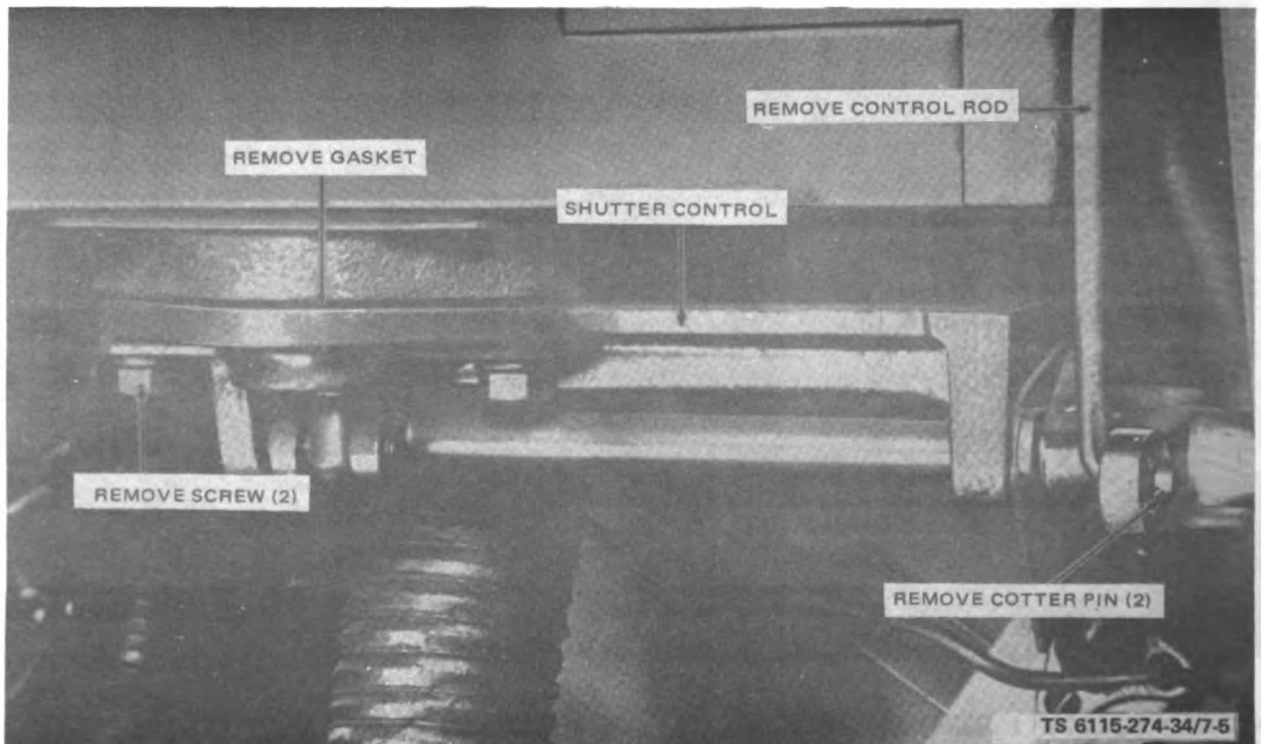

Figure 7-5. Shutter Control, Removal and Installation
(1) Remove the radiator drainplug and drain the coolant into a suitable container.
(2) Remove cotter pins and control rod (fig. 7-5).
(1) Refer to figure 7-5 and install gasket and shutter control with screws.
(2) Attach control rod and install cotter pins.